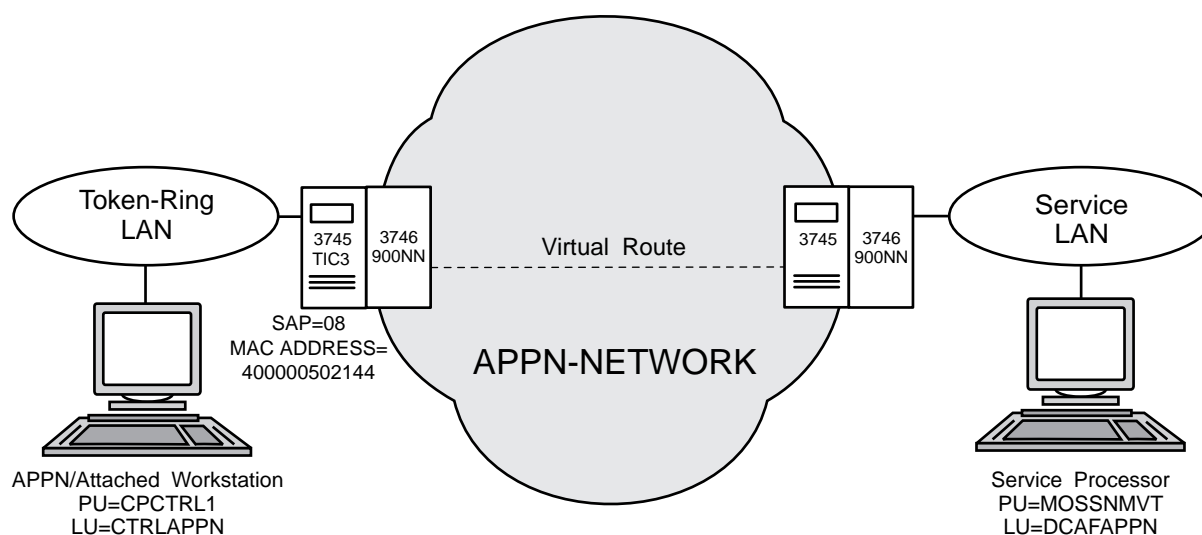

Figure 8-1. APPN Configuration
- Configure a DCAF session for controlling the service processor (see Figure 8-1 above).